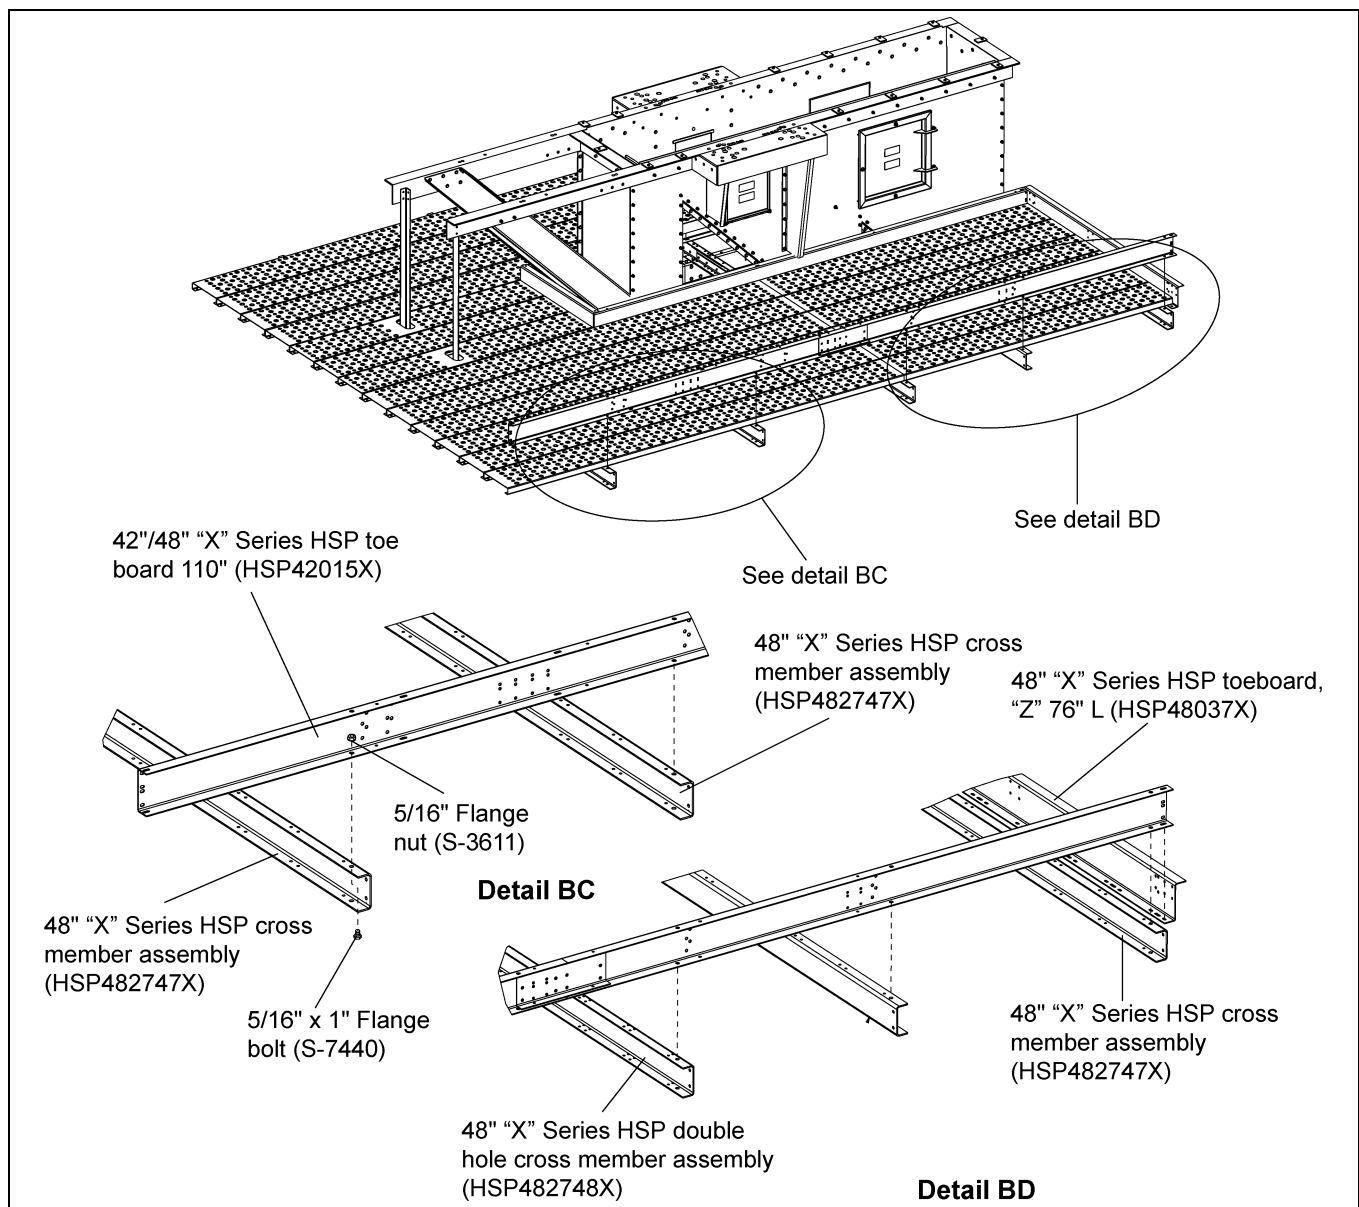

Figure 9N
5. Install the "Z" toe board (HSP48036X) on the hatch side at the down-leg end. Fasten to the ends of the toe boards (HSP42015X and HSP42018X) using 5/16" x 1" flange bolts (S-7440) and 5/16" flange nuts (S-3611). (See Figure 9N.)